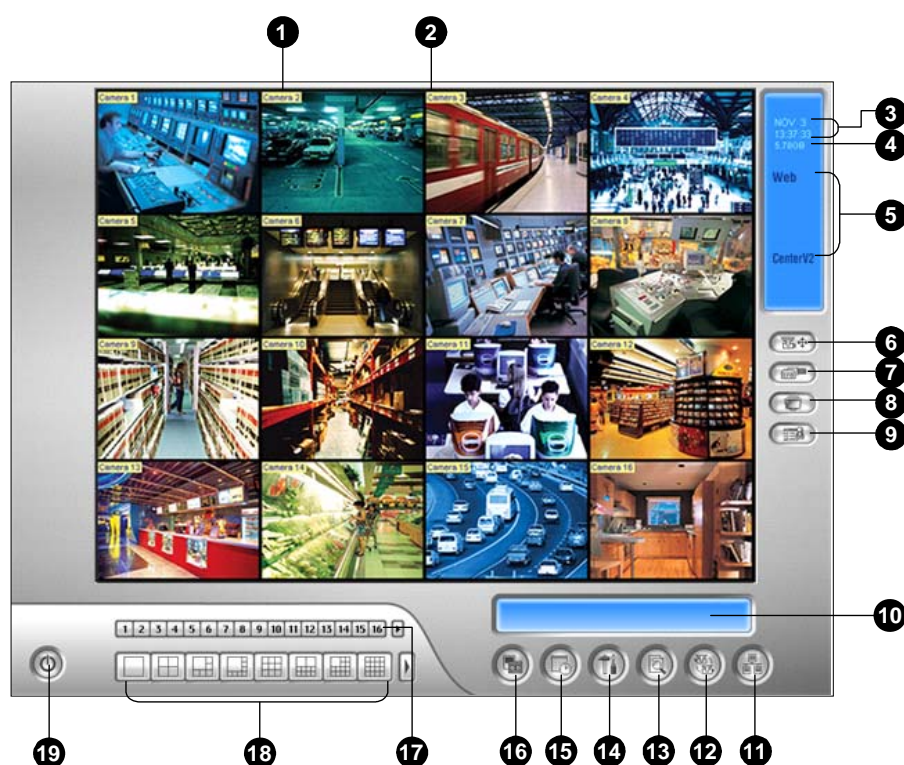

Figure 1-2
To set up cameras on the GV-System, click the **Configure** button (No.14, Figure 1-2), select **System Configure** and click **Camera Install**.
To start recording, press **[F7]** on the keyboard, or click the **Monitor** button (No. 16, Figure 1-2) and select a camera. By default, every camera records with the following settings:
- To instantly play back the events of one single channel, click on the **Camera Name** (No. 2, Figure 1-2), and select the time length.
- To instantly play back the events of all channels, click on the **ViewLog** button (No. 13, Figure 1-2), select **Instant Play**, and select the time length.
Changes made on the **General Setting** dialog box apply to all available cameras attached to the system. Click the **Configure** button (No.14, Figure 1-2), select **System Configure**, and click **General Setting** to access the following dialog box.
Click the **Configure** button (No. 14, Figure 1-2), select **System Configure**, and select **General Setting**. In the General Setting dialog box, you can see the storage information in the middle as illustrated below.